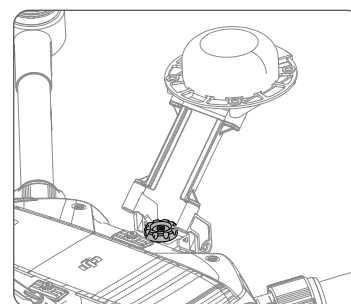

Fig.3
9. When using the M210 RTK, check that the RTK antenna screws have been tightened. (Fig. 3)